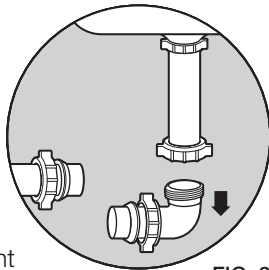

FIG. 8
2. Slip S.J. nut and beveled washer over both ends of cut tube, then insert the 3-way repair tee in the following manner: Loosen the S.J. nut on the horizontal waste ell where it joins the vertical tailpiece. (See Fig. 8)
Remove the short "ell" piece by pulling down off the tailpiece (Fig. 8), then put cut ends of ell into tee and tilt vertical end back up over tailpiece and resecure S.J. nut.